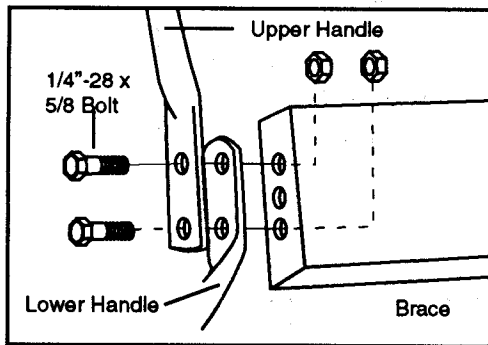

Fig. 1
- C. Place the handle brace plate between the lower handle braces and bolt all pieces together with 1/4"-28 x 5/8" bolts. Place a 1/4"-28 nut on each bolt and tighten securely. (refer to Fig. 1)